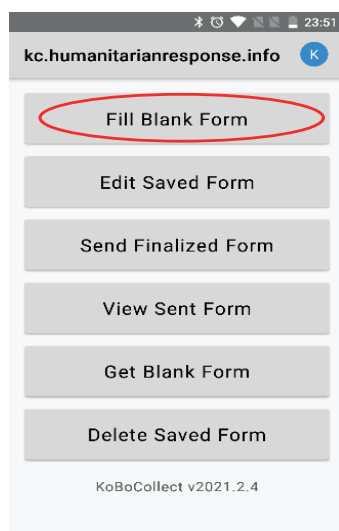

Figure 55: KoBoCollect - Fill Blank Form (beginning data collection)
1. Click on "Fill Blank Form". (Figure 55).